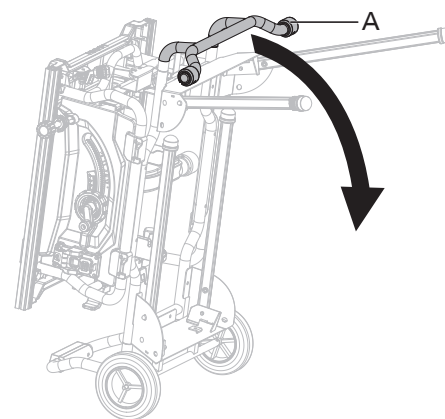

Fig. 3b
- Grasp the handle I (A) firmly and slowly tilt saw downward until the saw is balanced on the ground. (Fig. 3b-3c)